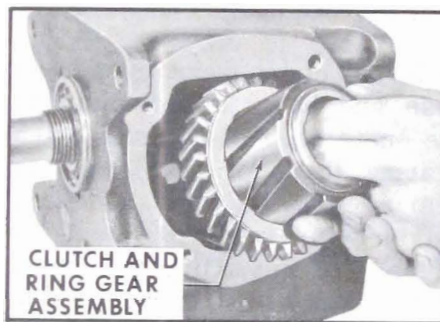

Figure 4-31—Installing Clutch and Ring Gear
15. Assemble the first - reverse ring gear on the clutch sleeve. Insert this assembly into the side cover opening by tipping the front end of the unit into the opening first. Align the lug of the synchronizing ring with the slot in the clutch sleeve when positioning the assembly on the clutch gear. See Figure 4-31.